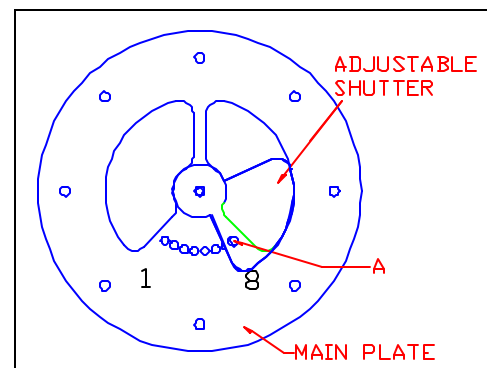

Figure 11 : Restriction Plate Adjustments
The restriction plate is used to control the draft of the heater. Controlling the draft also changes the aesthetics of the flame. The restriction plate has eight settings, one (1) being the lowest and eight (8) being the highest. For a fast moving flame with lots of action, use a low setting. For a slow, lazy flame, a high setting should be used. See Figure 11 for instructions on how to adjust the restriction plate settings.
(refer to Figure 11 for proper adjustment plate index location) ‘A’ in Figure 11 shows the locating screw that determines the position of the plate.